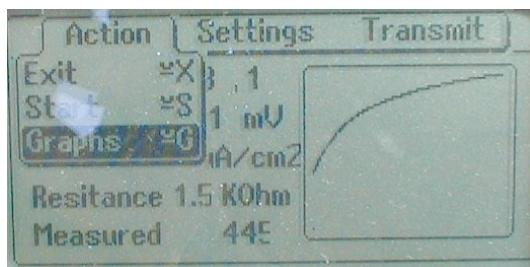

Fig. 27, Selecting the graph option
- Select the *Action* menu Fig. 27.